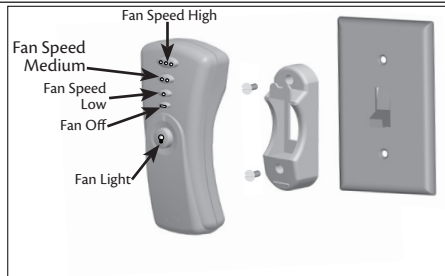

Figure 10
2. Mount the remote holder over the ceiling fan's wall switch using the existing wall plate screws. Refer to Figure 10.